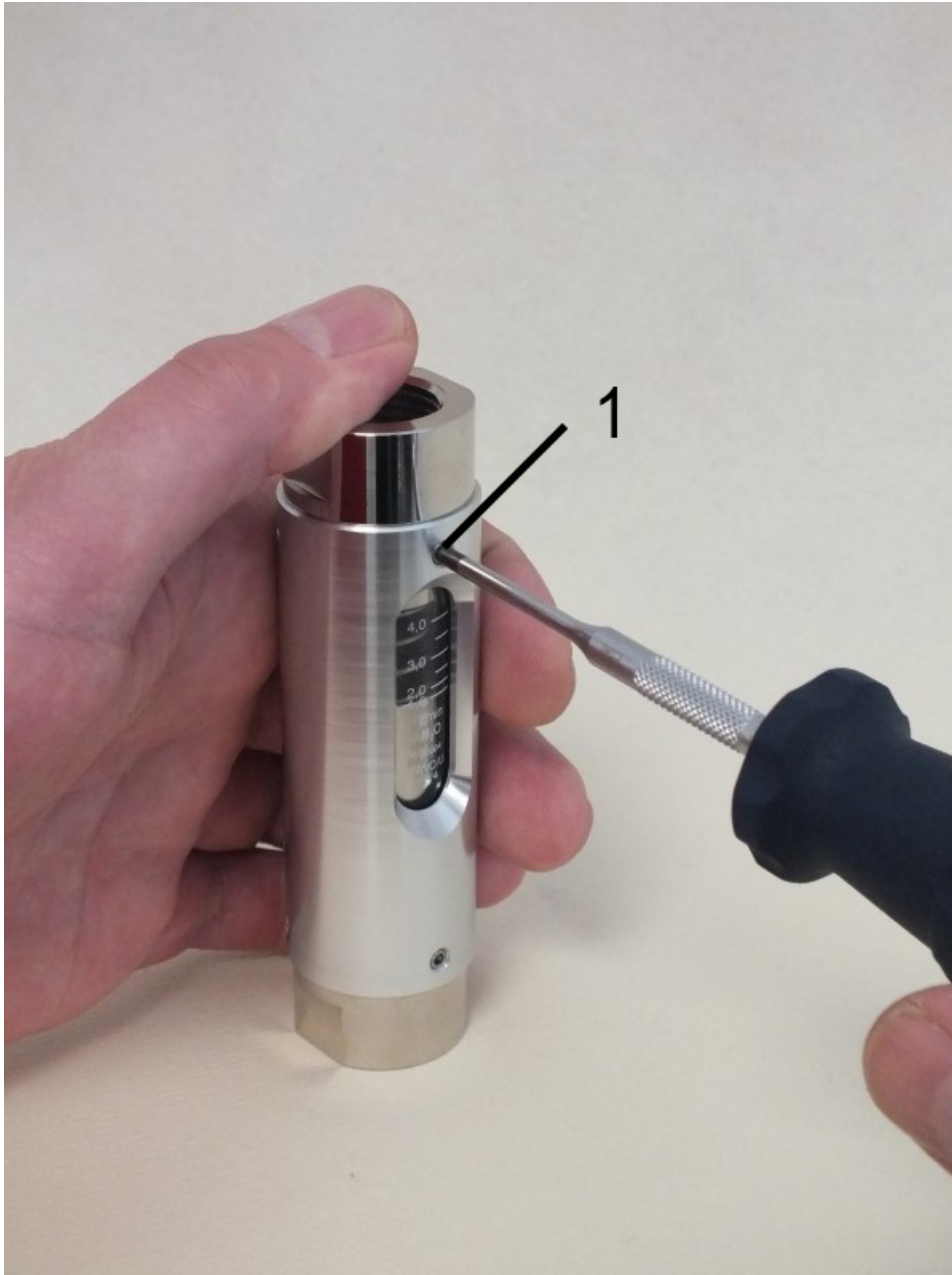

Fig. 50: Tighten hex socket screws
- 14.** Tighten the 3 hex socket screws (Fig. 50/1), observing the proper torque (→ Chapter 11.1 "Tightening torque" on page 84).